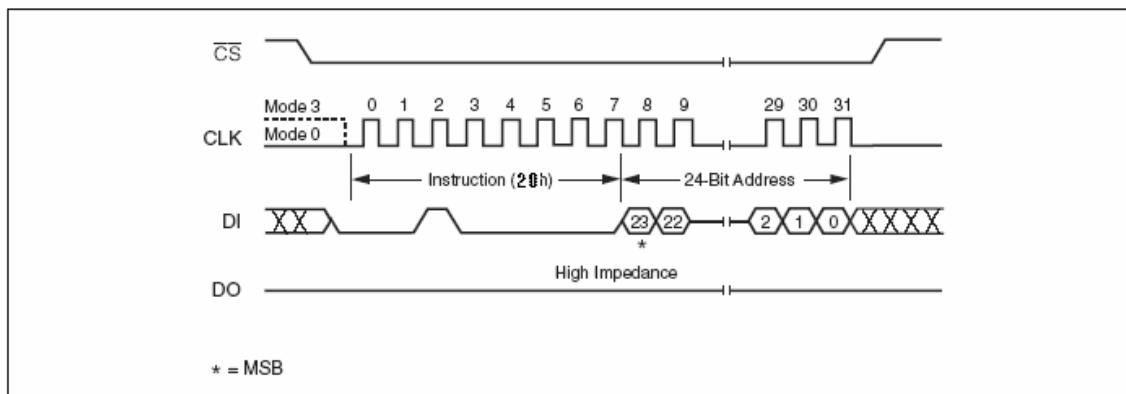

Figure 12. Sector Erase Instruction Sequence Diagram
The instruction sequence is shown in Figure 12.. Chip Select (CS#) must be driven High after the eighth bit of the last address byte has been latched in, otherwise the Sector Erase (SE) instruction is not executed. As soon as Chip Select (CS#) is driven High, the self-timed Sector Erase cycle (whose duration